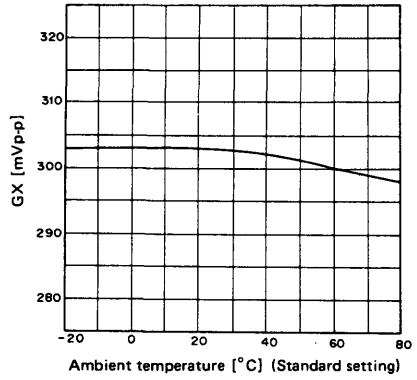

Fig. 8
- [8] Temperature characteristics of AGC amplifier (Fig. 8)